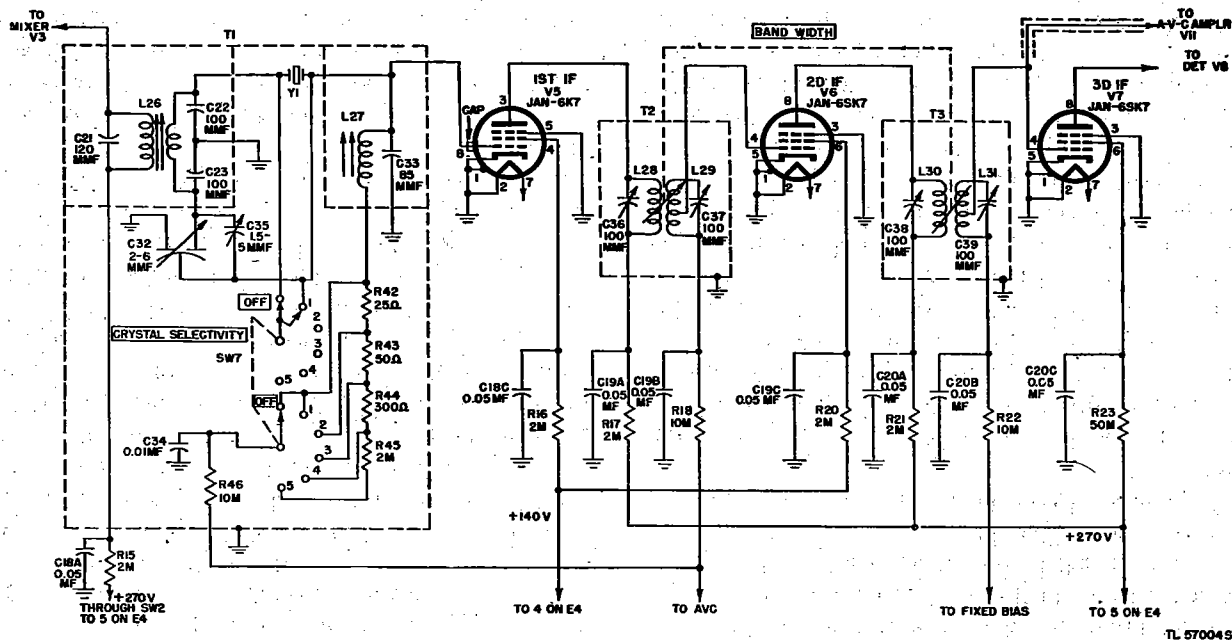

Figure 29. Radio Receiver BC-779-B, functional diagram of i-f amplifier.
62. I-F Amplifier (fig. 29)
a. INPUT STAGE TUBE JAN-6K7 (V5). (1) *CRYSTAL SELECTIVITY switch at OFF.* With the CRYSTAL SELECTIVITY switch, SW7, at OFF, the crystal filter is shorted. Consequently, the i-f signal is applied directly from input transformer L26 to the parallel-resonant grid circuit (permeability-tuned inductor L27 and 85-mmF capacitor C33) and to the control grid (top cap) of V5. C34 places the lower end of L27 at r-f ground potential. Grid bias is applied from the a-v-c line (par. 65) through 10,000-ohm decoupling resistor R46 which is bypassed by 0.01-mf capacitor C34. Plate (pin 3)
a. *A-V-C AMPLIFIER TUBE JAN-6SK7 (V11).* The output of the 2d i-f stage, V6, is applied simultaneously to the 3d i-f stage, V7 (fig. 29),